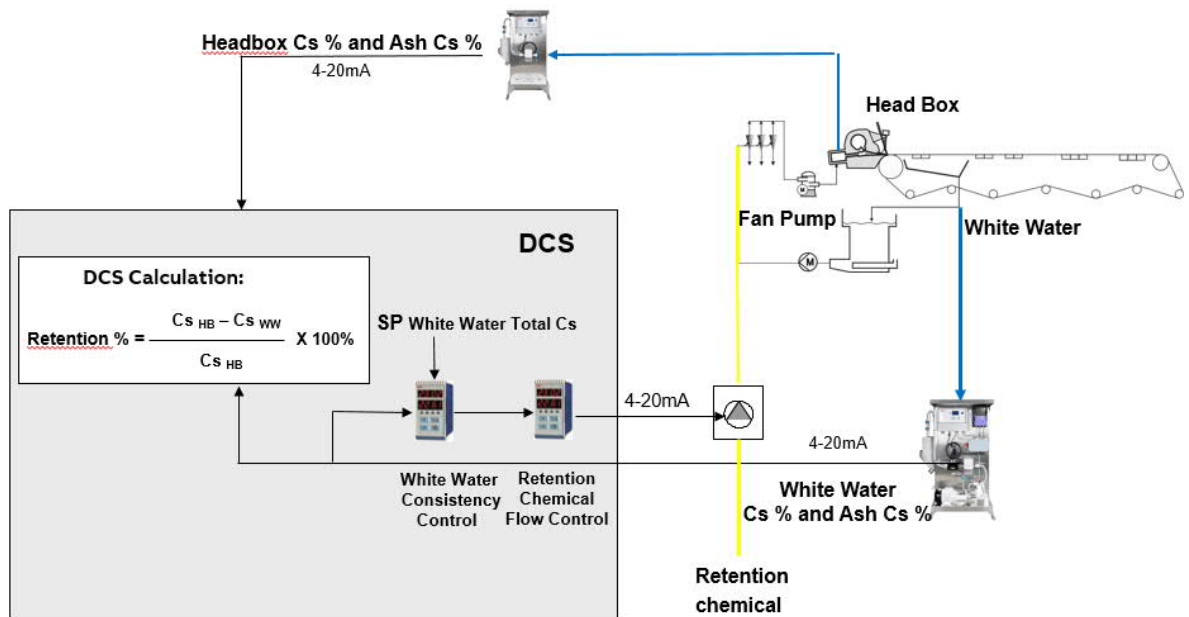

Fig. 22. Retention system and control.
- Retention calculation and control are configured in DCS (figure 22).